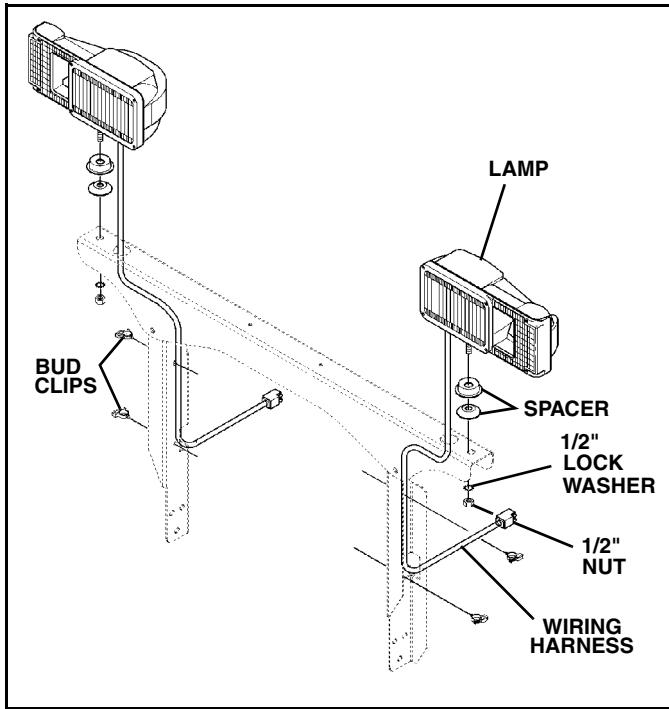

Figure 1-7
15. Mount lamps on light bar using supplied 1/2" lock washers and nuts. Route the harness through the light bar, through the access hole, and down the inside of the light bar supports. (See Figure 1-7)